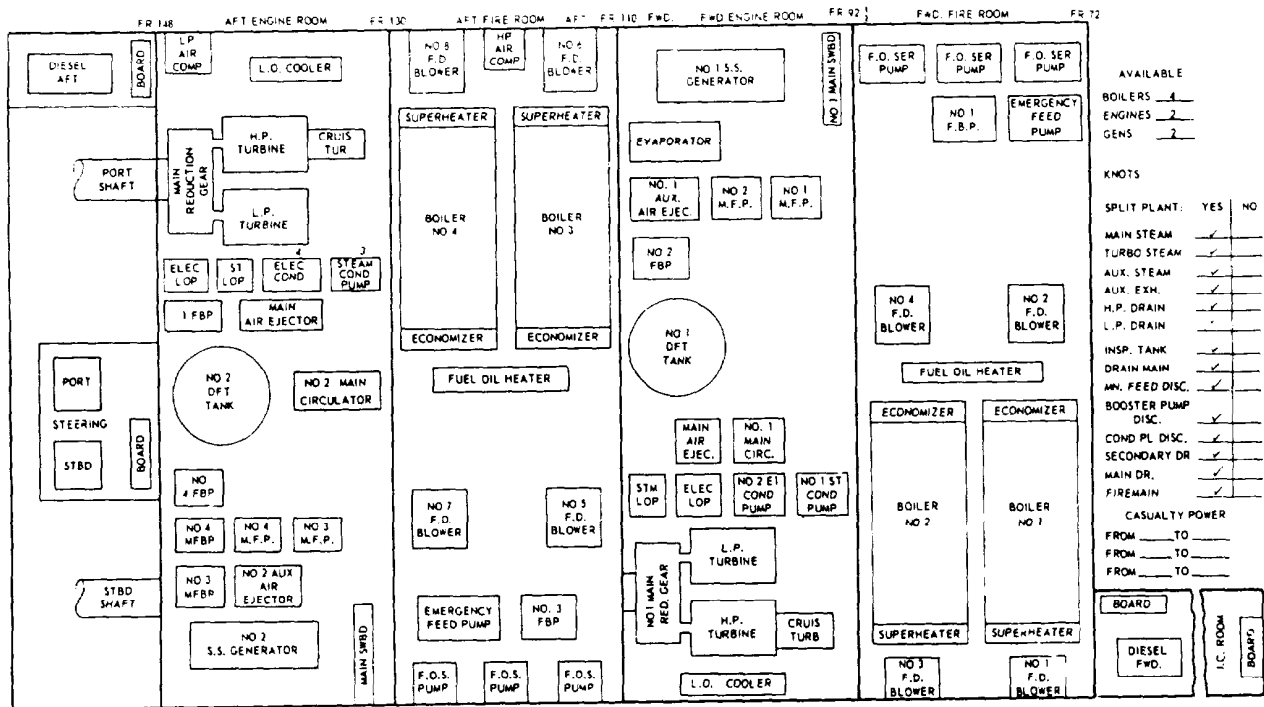

Figure 2-14.—Casualty control board.
- Space status board providing a schematic of major systems and a tabular listing of the major equipment within the individual machinery spaces for maintaining a plot of system alignments and equipment operating status. This board is similar in configuration to the casualty control board for the stage I documentation shown in figure 2-14.